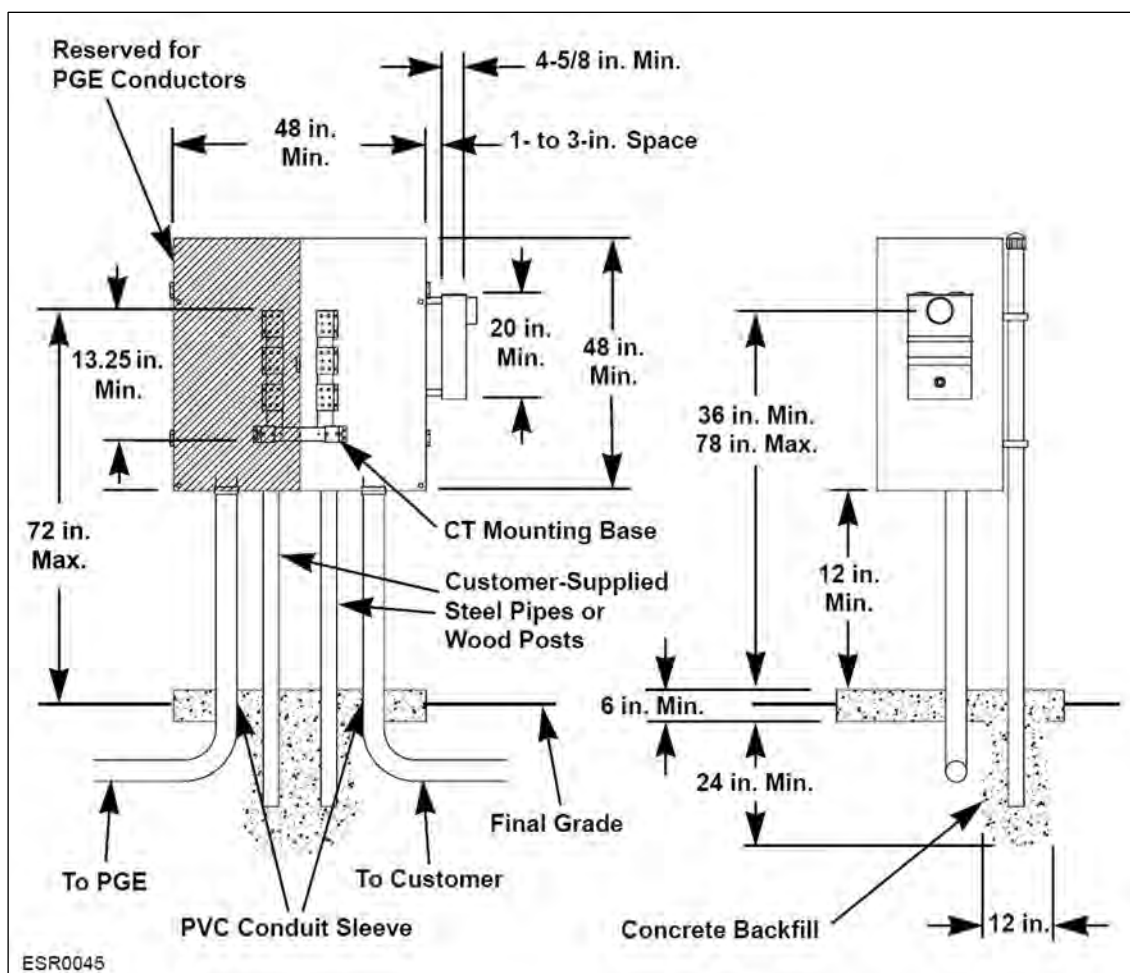

Figure 72: Current Transformer Metering, Post Mounted, 600 V, 800 A Maximum
Figure 72 shows current transformer metering, post-mounted, 600 V, 800 A maximum. The customer must consult PGE before construction.
- The configuration shown in **Figure 72** can be used as a wall mount if clearance allows.